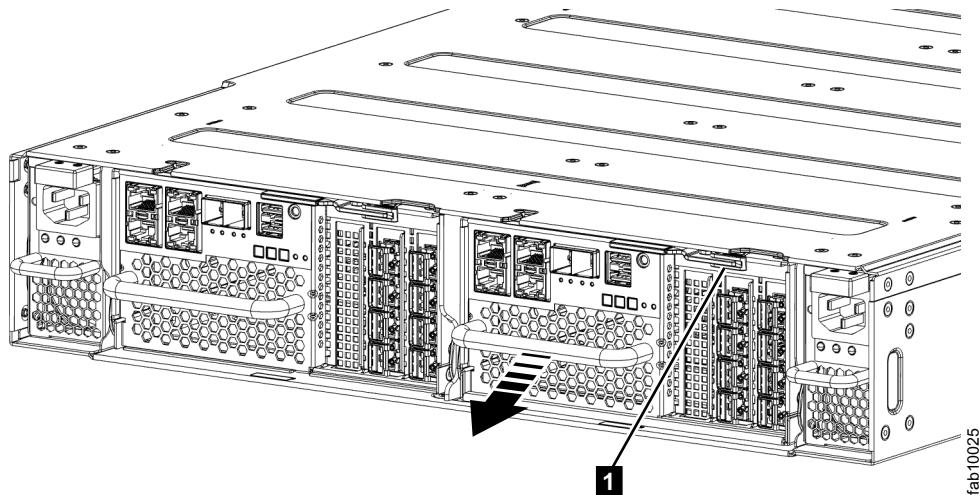

Figure 65. Removing a node canister
6. On the canister, unlatch the release lever and pull it open (see Figure 65). The canister moves out of the slot approximately 0.6 cm (0.25 inch). Be careful that you do not inadvertently disturb or remove any cables that are connected to other components of the system.